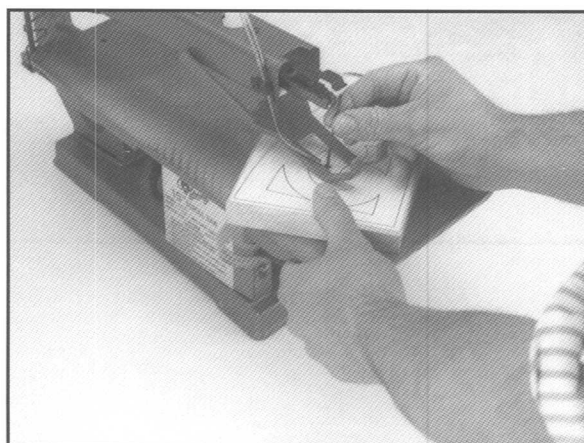

Figure 6
3. Thread the blade through the hole in the workpiece and re-attach it to the retainer clips. You'll find it easier to start with the lower clip first. See Figure 6.